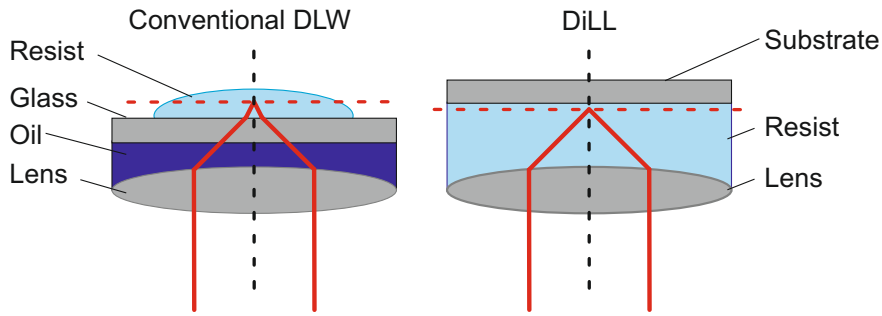

Figure 5.2.: Comparison between oil immersion and DiLL configuration
- Dip-in Laser Lithography (DiLL):** In this configuration the microscope objective is directly dipped into the photoresist. The spherical aberrations are minimized and constant for the full printing range. No interfaces limit the structure height in this configuration, the maximum structure height is limited only by the sample holder used and may be larger than 2 mm. We recommend to only use the index matched DiLL compatible photoresists of Nanoscribe for this printing technique with the respective compatible objective lenses. Other resists might damage the objectives or result in bad printing quality due to a non ideal index match. In Figure 5.2 the oil immersion and DiLL configuration are compared graphically. Please note that the writing direction in DiLL configuration is upside down. Either use the command `InvertZAxis 1` in your script to set the correct writing direction or activate the  **Invert Z-Axis** button in NanoWrite. The piezo x- and z-axes will move to 300  $\mu\text{m}$ , which corresponds to the inverted piezo origin, to conserve the right-handedness of the coordinate system and flip the writing direction at the same time. See Table 5.2 for the standard hardware used for the oil immersion configuration. sample approach